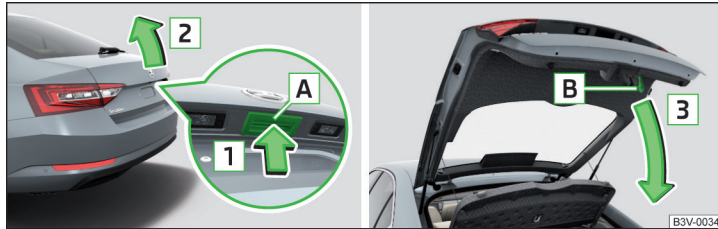

Fig. 44 Opening / closing tailgate
- Press the button **A** in the direction of arrow **1** » Fig. 44.